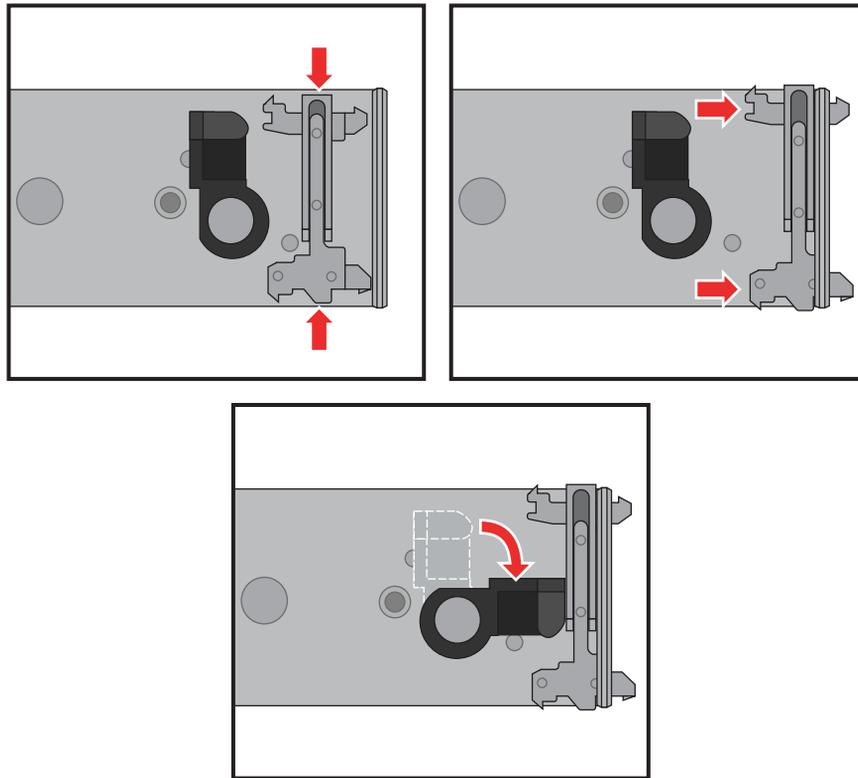

Figure 1-18 Reversing the Rail Pin Adapter
2. Squeeze the adapter’s pins together and extract it from the end of the rail, see Figure 1-18 on page 22.